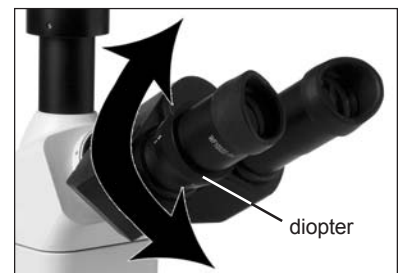

Figure 34
22. Before each use of the microscope it's important to check and readjust the diopter if necessary. With the main focus controls, and viewing only with your right eye, bring the specimen into focus. Then view the image using only your left eye and rotate the diopter ring located around the left eyetube (figure 34) to bring the image into focus.